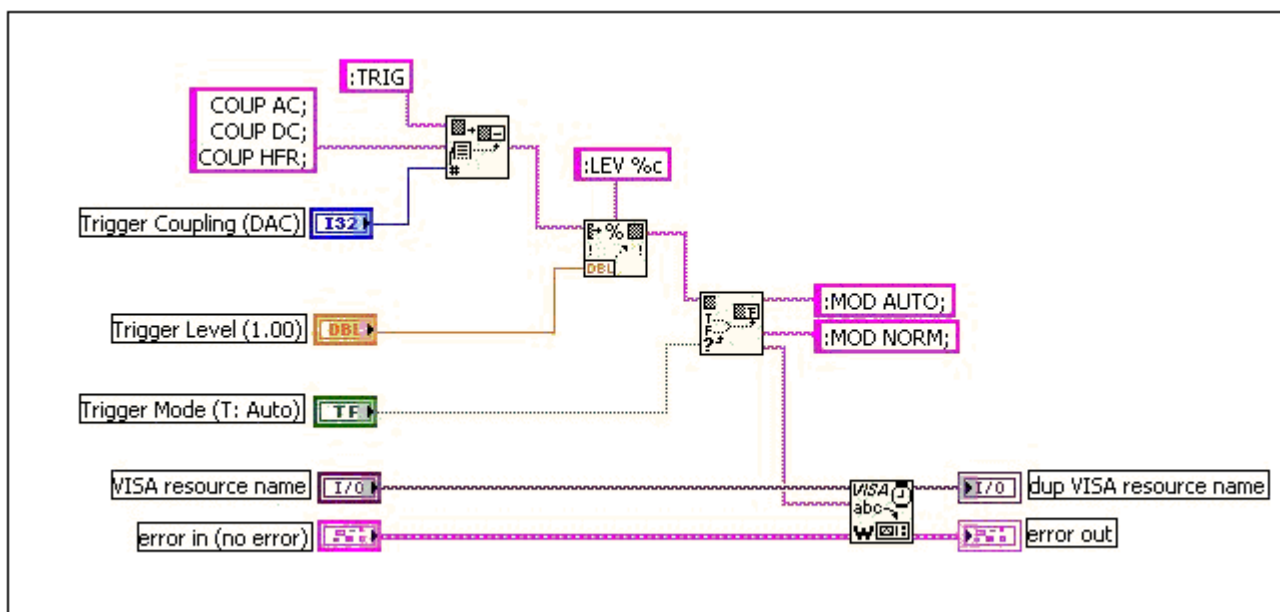

Figure 11. Simple Trigger Block Diagram Following Style Guidelines
- Label control and indicator terminals with normal text, but use **bold** text to make free label comments stand out. The background of labels should be colored transparent. Figure 11 is an example of a block diagram that uses these style guidelines.